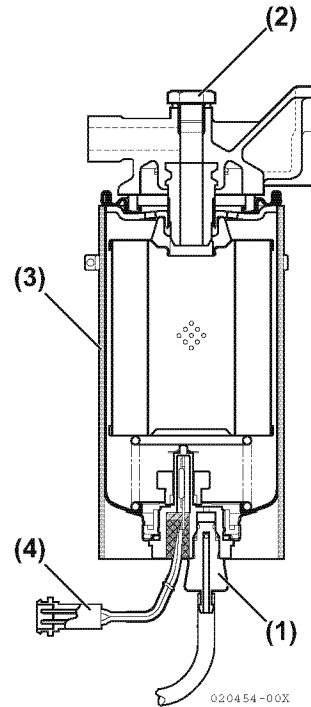

Figure 6
2. Loosen the drain plug (**Figure 6, (1)**) of water separator and drain off any water or dirt collected inside.
3. After draining, tighten the air bleed screw (**Figure 6, (2)**).